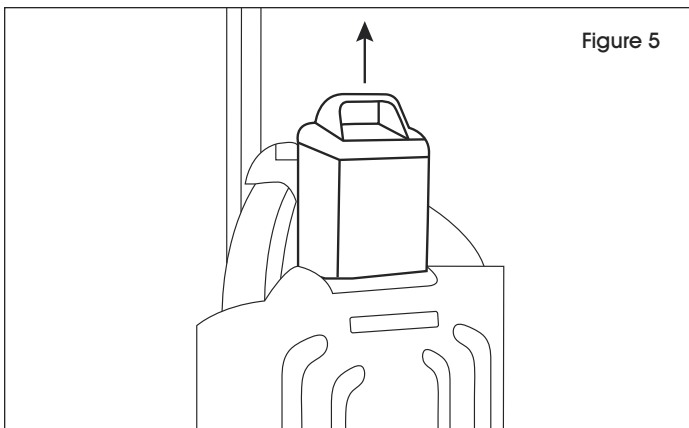

Figure 5
NOTE: When one green and one red LEDs are lit charging is in progress. When two red LEDs are lit charging is complete. Figure 5 shows the top view of the charger base contact pins, make sure to plug in the battery accordingly. If the battery is not fully charged after more than five hours contact Uline Customer Service.
1. Lift the battery out of the vehicle. (See Figure 5)